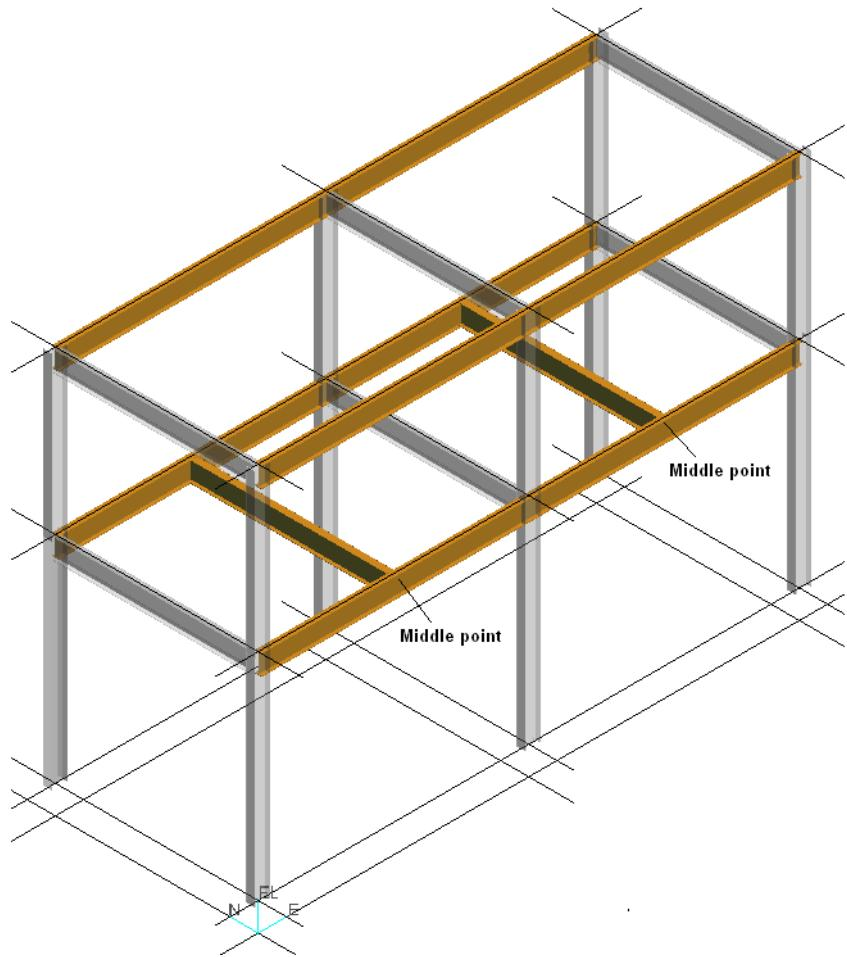

Figure 3 –Isometric View of the Structure U02
2. Use the view shown in figure 3 to place the perimeter beams. Use the place linear member system ribbon bar to set the active member parameters as follows: